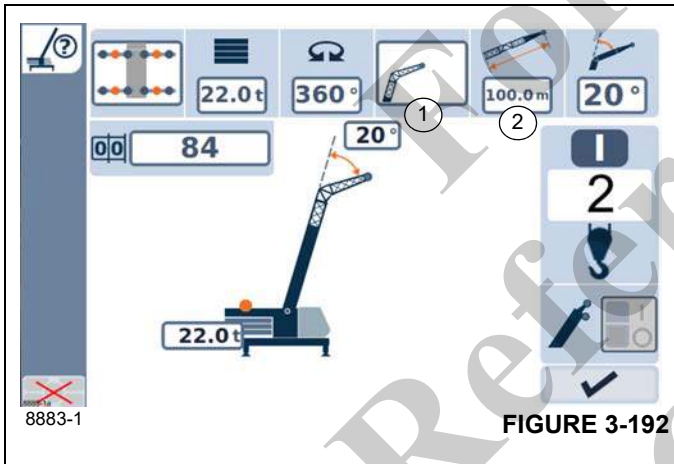

FIGURE 3-192
There are 5 choices: main boom, fixed boom extension, luffing boom extension (1), (Figure 3-192), heavy duty extension and auxiliary nose. Then, if a boom extension is selected, the operator chooses the boom extension length (2) which includes inserts and stinger.